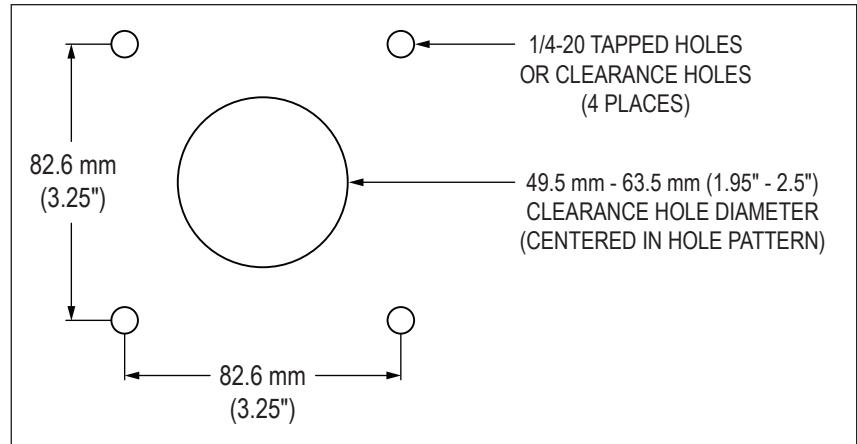

FIGURE 1 – BENCHTOP MOUNTING PATTERN
2. Cut or drill mounting pattern in surface. Refer to Figure 1 for the benchtop mounting pattern.